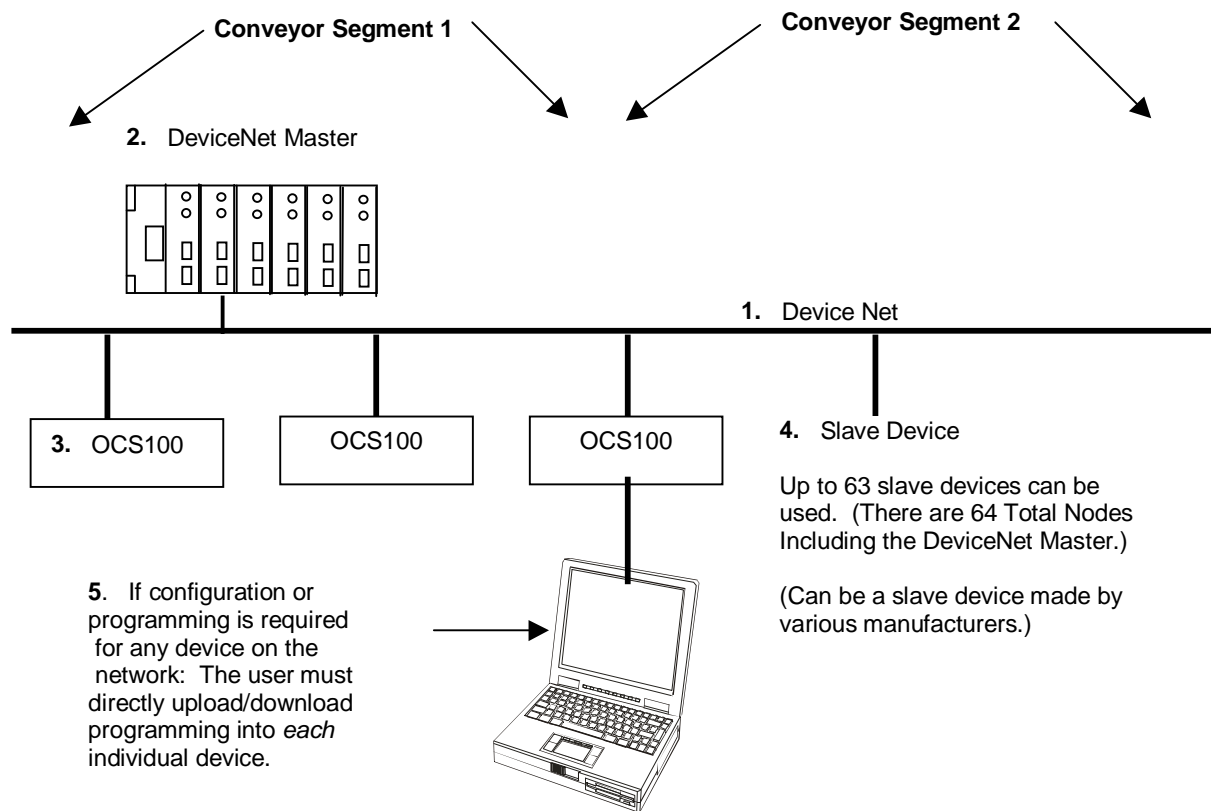

Figure 4.1 – Using Control Station Modules in a DeviceNet Network
Chapter Four describes an example DeviceNet network using Control Station Modules (**OCS100**) in a conveyor application. Refer to Figure 4.1.
1. The **DeviceNet Network** allows a DeviceNet Master to communicate with slave nodes over a common bus. Figure 4.1 depicts a DeviceNet network using OCS100 devices. Conveyors are typically laid out in segments. Each segment typically uses a Control Station (i.e., OCS100) to control a specific segment and to communicate with Control Station Modules located on other segments of the conveyor. The OCS100 also communicates with the DeviceNet Master. A total of 64 nodes is available on the network including the DeviceNet master. Up to 63 slave devices can be used.